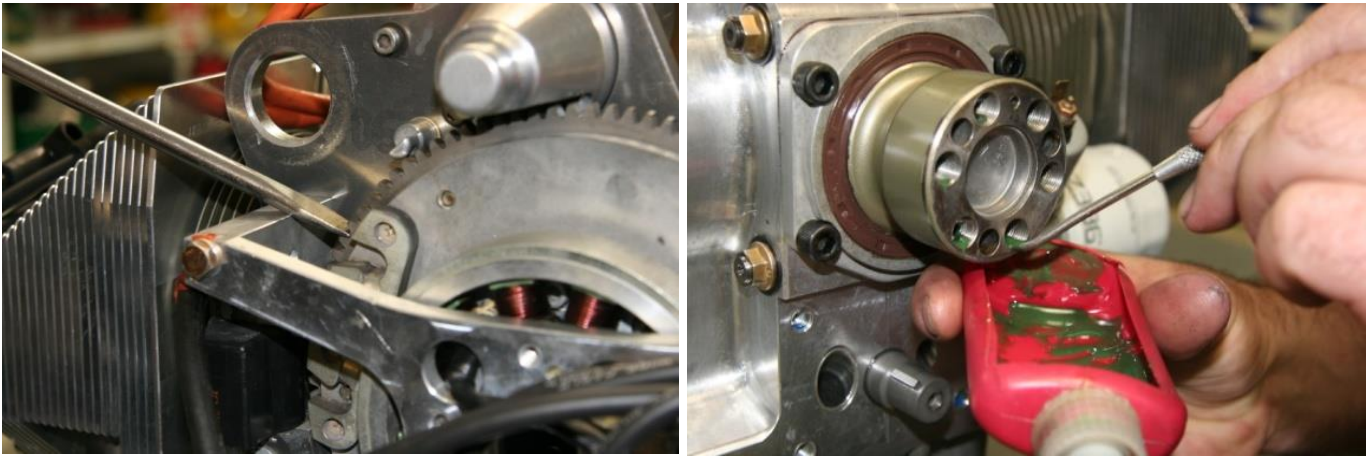

Figure 207 – Preparing To Fit Propeller Flange
- Fill the seal with high temperature grease or commercial seal lube and fit the housing to the engine as shown in Figure 207 (right). Note the orientation of the housing. Use 4 off 5/16" cap screws with Loctite 243 on the threads. Note that earlier engines used 1/4" screws. Either type assembly is acceptable.
Apply the same amount (approximately the size of a large match head) of Loctite 620 to the threads in the crankshaft. Apply the compound as shown in Figure 207: Use a scribe or small probe to apply the Loctite to the threads inside the crankshaft. Apply in the range 1 – 6mm from the front face of the crank.